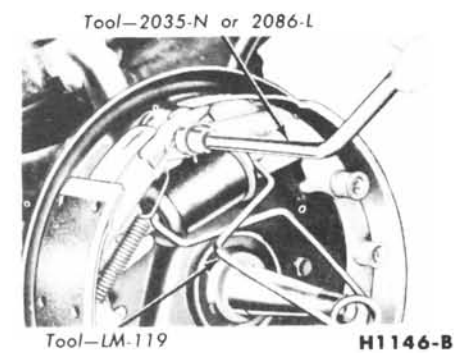

FIG. 9—Retracting Spring Removal
1. With the wheel and drum removed, install a clamp over the ends of the brake cylinder as shown in Fig. 9.
5. Remove the secondary shoe to anchor spring with the tool shown in Fig. 9. With the same tool, remove the primary shoe to anchor spring and unhook the cable eye from the anchor pin.